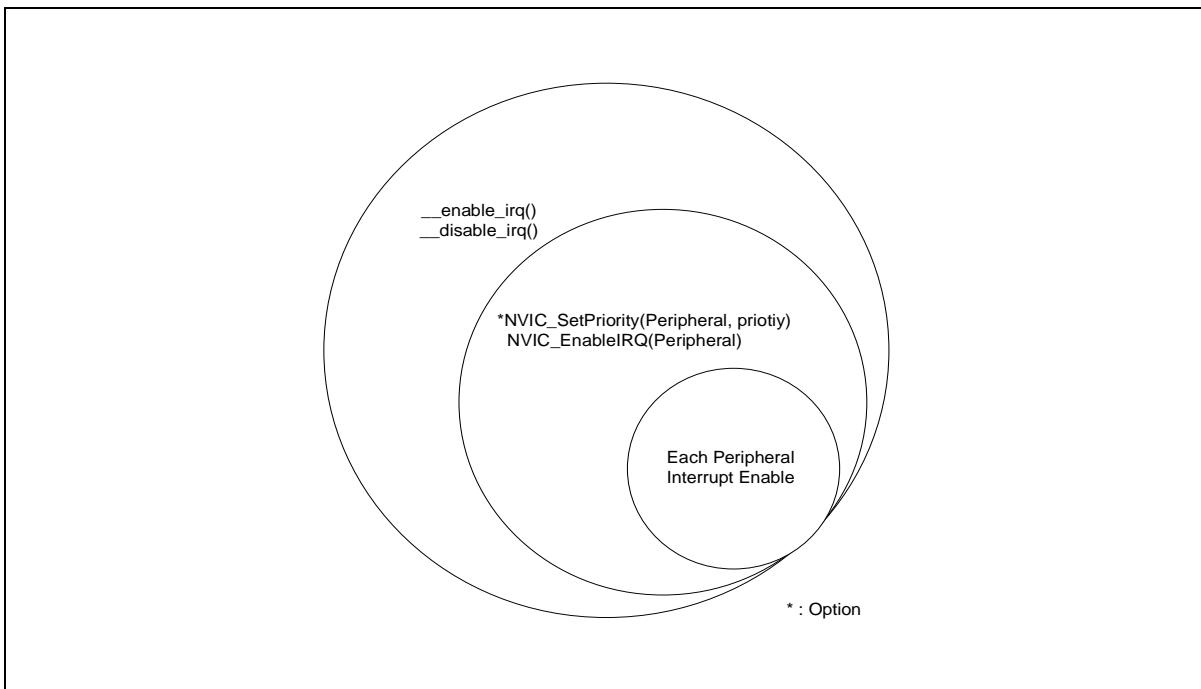

Figure 7. Interrupt Block Diagram
2. Figure 7 is a caution when using Peripheral Interrupts. Interrupt don't work if only peripheral interrupts are enabled. Enable the function in core to enable interrupt.